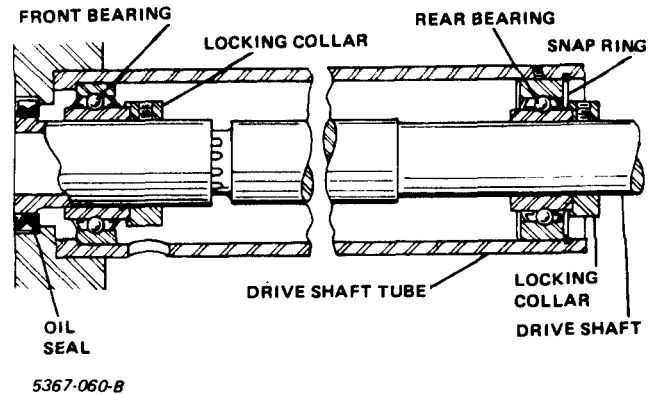

Figure 5-16. Drive Shaft Assembly and Tube
5. Remove the snap ring at the rear end of the drive shaft tube (see figure 5-16) and pull the drive assembly from the tube.
6. Check the condition of the oil seal at the front end of the drive shaft tube (see Figure 5-16). Replace seal if condition warrants.
7. Replace front and rear bearings (see Figure 5-16).
10. Install and position rear bearing and backing collar (see Figure 5-16).
11. Replace snap ring (see Figure 5-16).